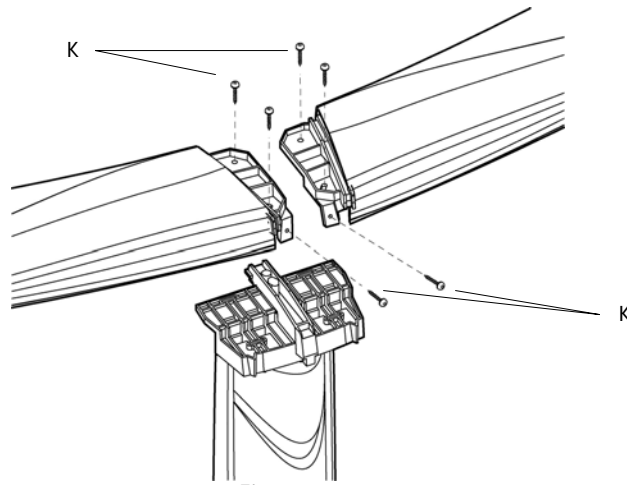

Figure 2.1
Position and place the top rails as indicated in (figure 2.1). The slots on the top rails should line up with the holes on the joining plates. Insert the top 3/4-inch screws (K) without tightening them too much.